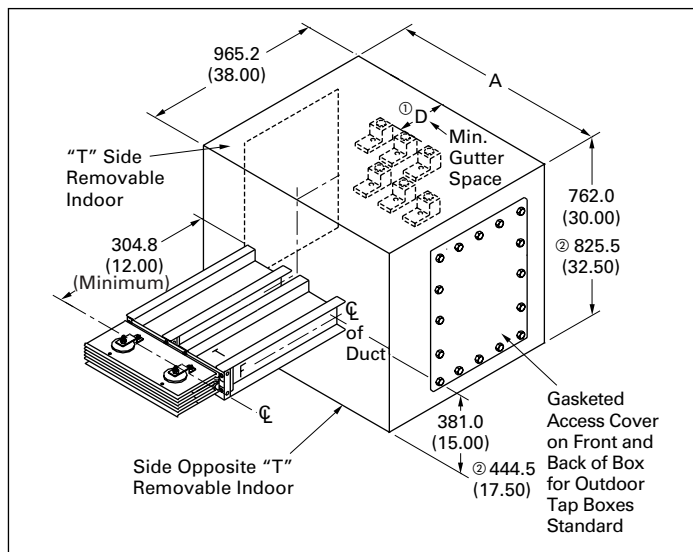

Figure 26. End cable tap box
End cable tap box (Figure 26)
① For compression lugs, factory provides provisions only.
② All dimensions shown in **Figure 26** remain constant regardless of system wiring configuration.
③ Denotes quantity of terminals per ground bus.
④ Denotes quantity of terminals per phase and 100% neutral bus.
⑤ Denotes quantity of terminals per 200% neutral bus option.